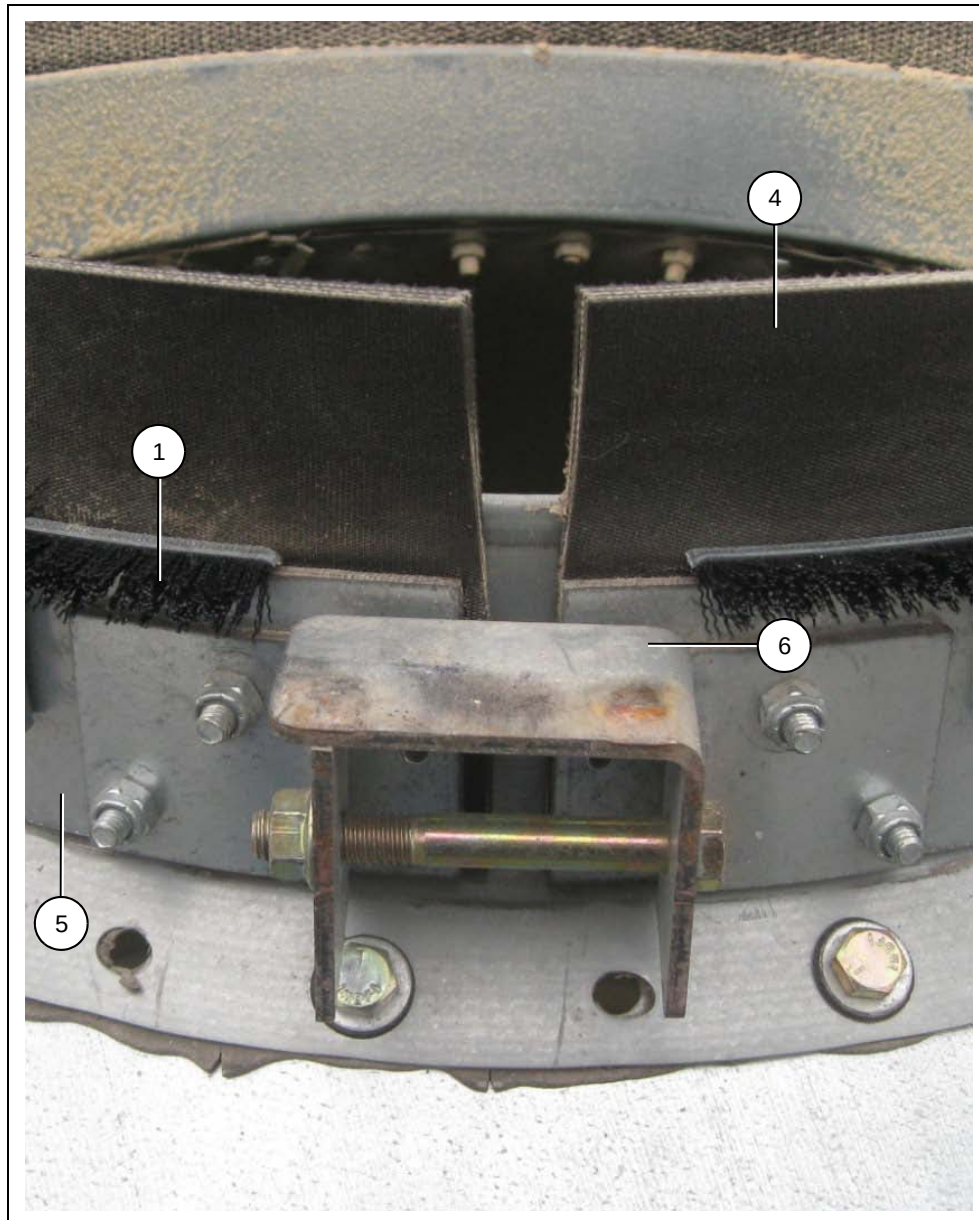

Figure 1
2. Install the Snow Guard brush (1) around the rubber belting (4) and position it down to the top of the clamp band (5).
3. Rotate the brush with the loose ends on each side of the striker plate (6). *(See Figure 1.)*